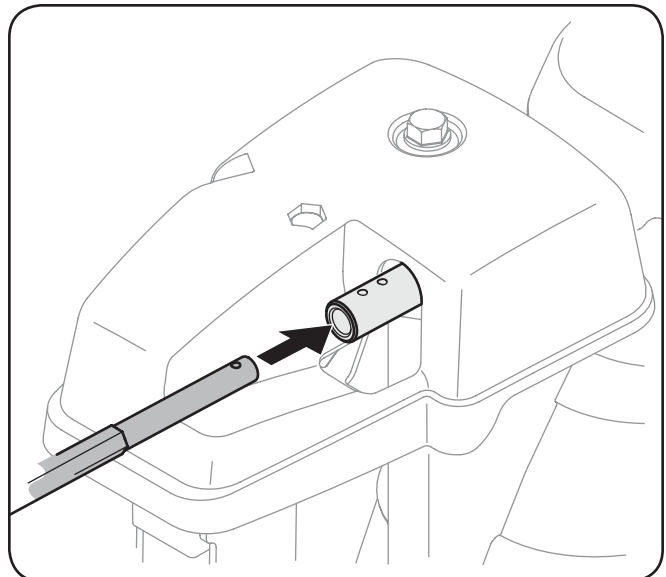

Figure 3-3
2. Insert hex rod into chute control head. Push rod as far into chute control head as possible, keeping the holes in the hex rod pointing upward. See Fig. 3-3.